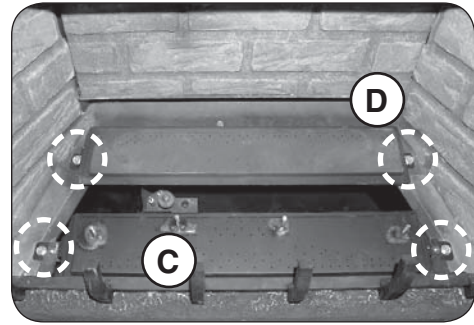

Fig. 54-1 Remove grate & burner hex screws
4. Remove the grate. Then remove the 2 hex screws found on the ends of the rear burner using a $\frac{5}{16}$ " nut driver. See Fig. 54-1, "C" and "D".